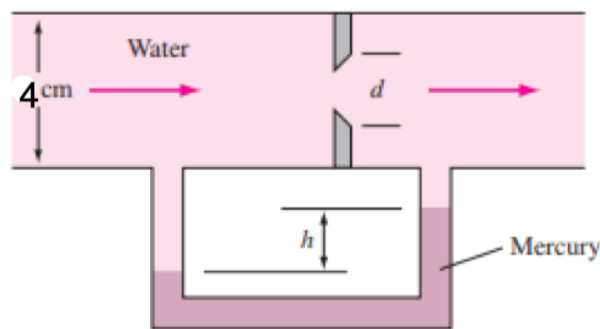

Figure Q3
b) Water flows in a pipe through an orifice as shown in Figure Q3. Determine the pressure difference before and after the orifice if the height is $h = 30$ cm.